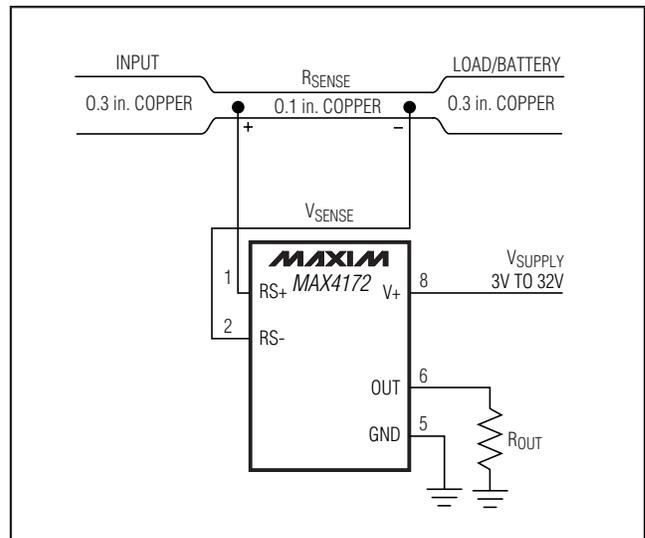

Figure 2. MAX4172 Connections Showing Use of PC Board
- Cost:** If the cost of R_{SENSE} is an issue, you might want to use an alternative solution, as shown in Figure 2. This solution uses the PC board traces to create a sense resistor. Because of the inaccuracies of the copper resistor, the full-scale current value must be adjusted with a potentiometer. Also, copper's resistance temperature coefficient is fairly high (approximately 0.4%/°C).
In Figure 2, assume that the load current to be measured is 10A, and that you have determined a 0.3-inch-wide, 2-ounce copper to be appropriate. The resistivity of 0.1-inch-wide, 2-ounce (70μm thickness) copper is 30mΩ/ft. For 10A, you might want R_{SENSE} = 5mΩ for a 50mV drop at full scale. This resistor requires about 2 inches of 0.1-inch-wide copper trace.